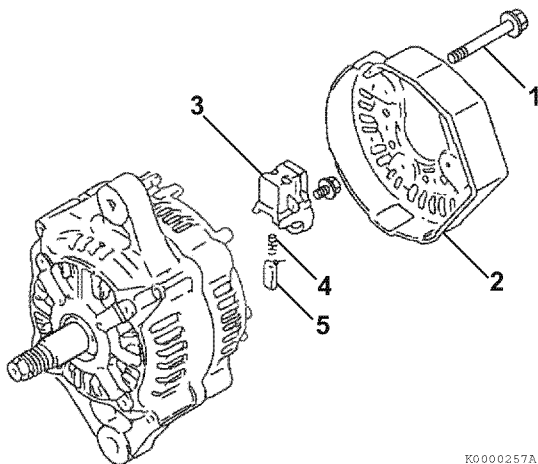

Figure 12-7
- Remove the bolt retaining the regulator assembly (1, **Figure 12-7**) to the holder (2, **Figure 12-7**).
- Remove the bolts retaining the holder (2, **Figure 12-7**) to the rear frame housing. Remove the holder.
- Remove the nut (3, **Figure 12-7**) retaining the insulation bushing (4, **Figure 12-7**). Remove the insulation bushing.